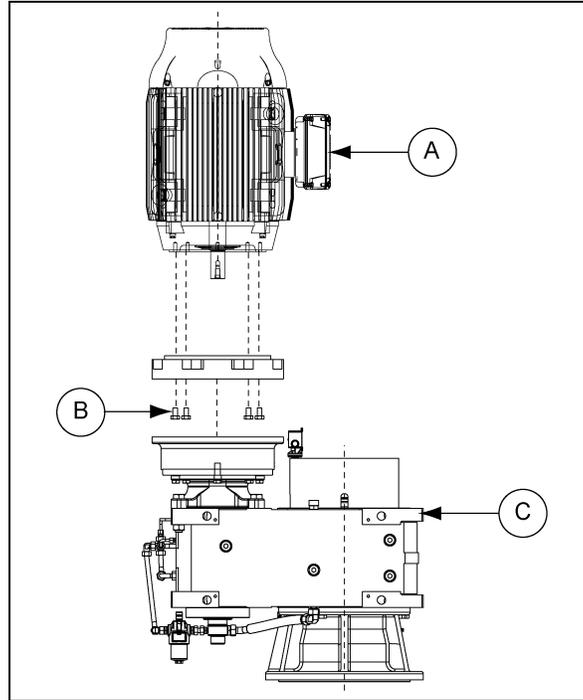

Figure 5B Motor Assembly
1. Mount the motor (A) to the reducer gearbox (C) and make sure to align the key and the keyway on the shaft. (See Figure 5B.)
2. Bolt (B) the motor to gearbox reducer (C).